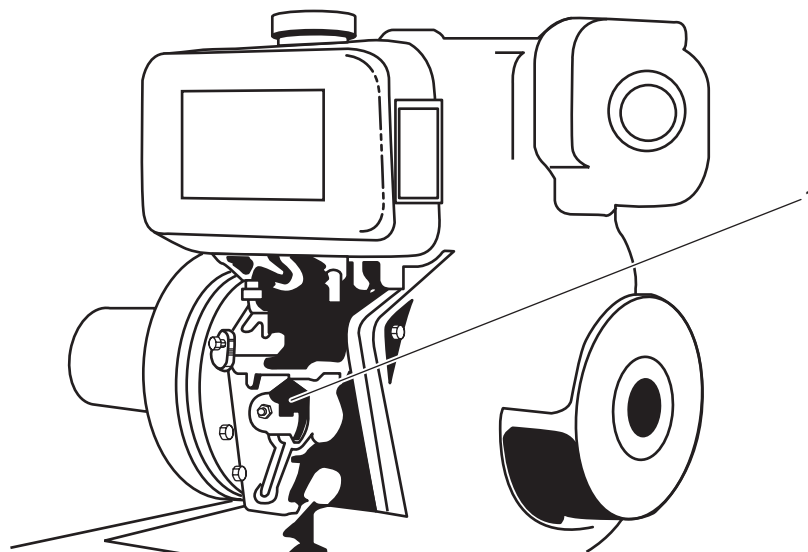

Figure 3. Engine Throttle Control
2. Set the engine throttle control (figure 3, item 1) to the START position.
2. Set the engine throttle control (figure 3, item 1) to the STOP position.
- a. Set the ON-OFF switch (figure 3, item 1) to the ON position.
- b. The POWER AVAILABLE indicator (figure 3, item 2) will illuminate.
- c. Press the START pushbutton (figure 3, item 3).
- d. The MOTOR RUN indicator (figure 3, item 4) will illuminate.